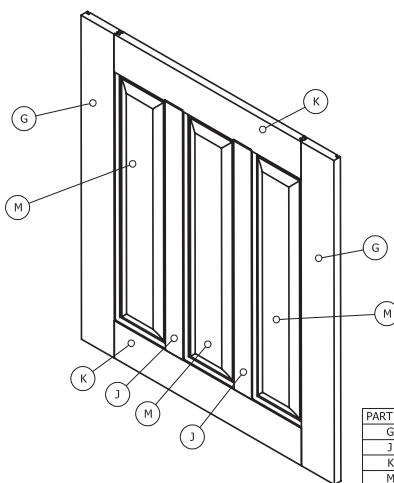

Figure 3
- (40:45 to 41:30) About the back panel. Again, use plain 3/4" plywood panels...or raised panels like our example. See figure 3.